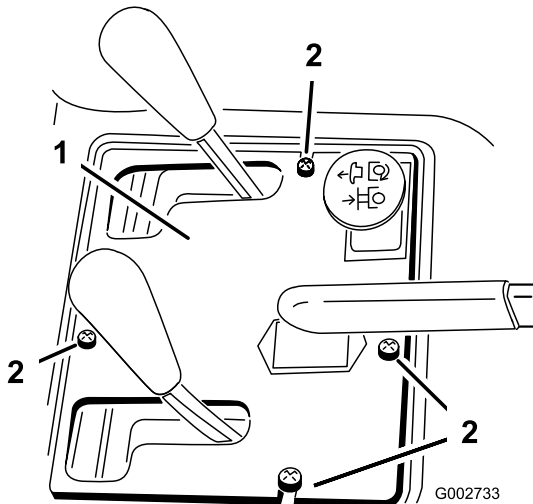

Figure 37
2. Remove the 4 screws securing the control panel to the frame (Figure 37).